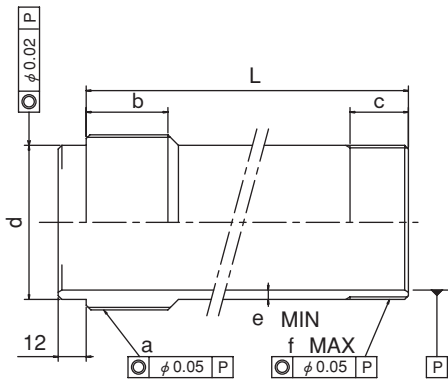

Fig. 10
The dimension L in Fig. 10 is determined from the distance A between the cylinder adapter and the back plate.
- Keep the dimension e and the dimension f in Fig. 10 for the draw pipe and a material with the tensile strength 380MPa (38kgf/mm²) or more must be used.